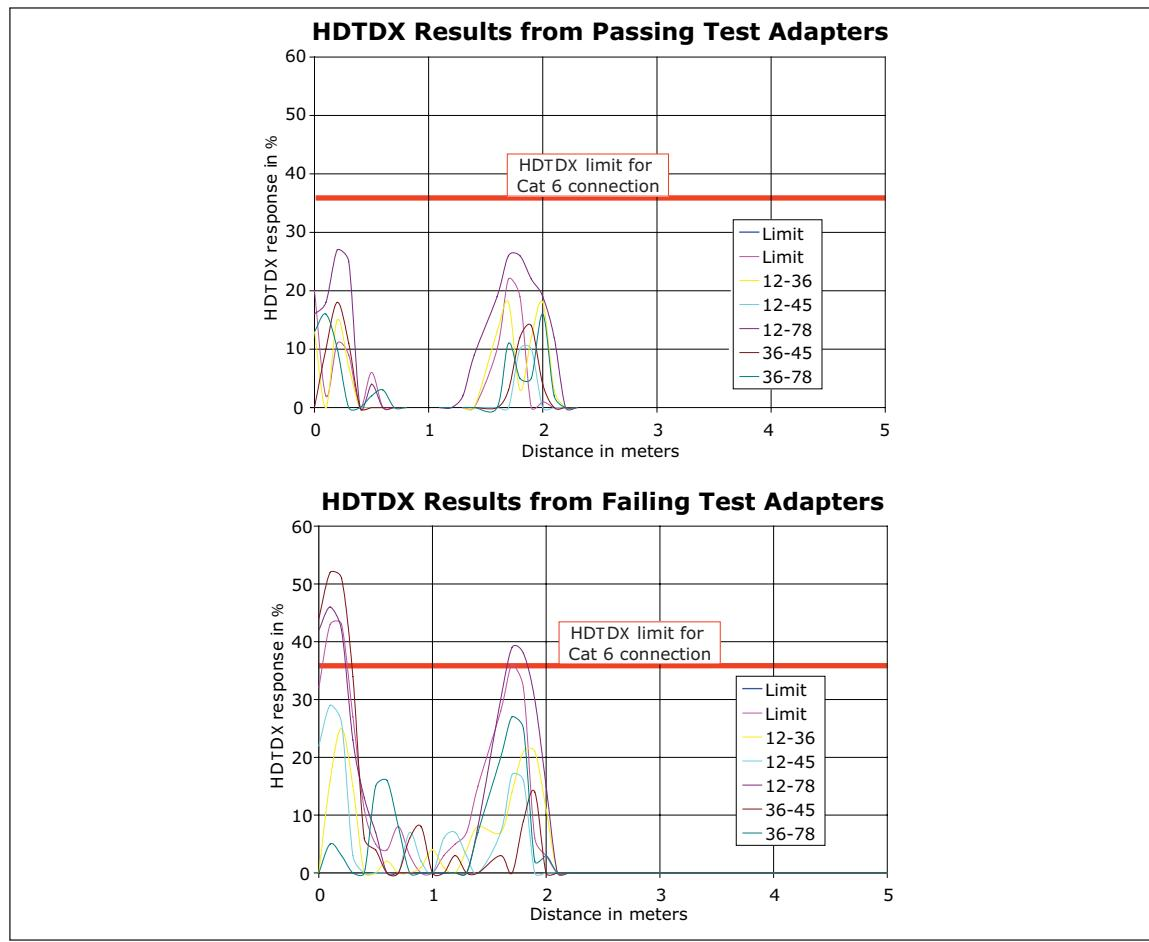

Figure 11. Examples of HDTDX Results for Passing and Failing DSP-PCI Adapters
5. Verify that the HDTDX responses for the main and remote adapter connectors are 36 % or less. Figure 11 shows examples of passing and failing test adapters.